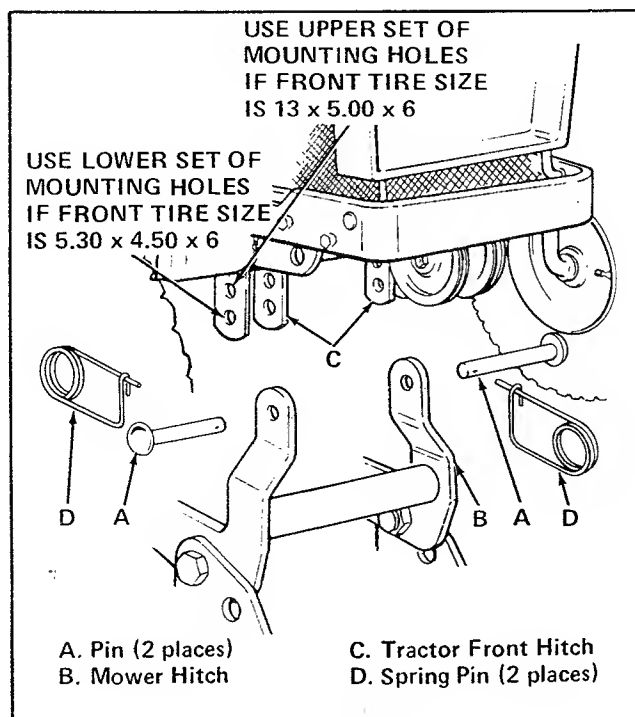

Figure 3. Attach Mower
3. Lift the front of the mower, insert pins (item A, figure 3) through mower hitch (B) and tractor hitch (C). Secure both pins (A) with spring pins (D).